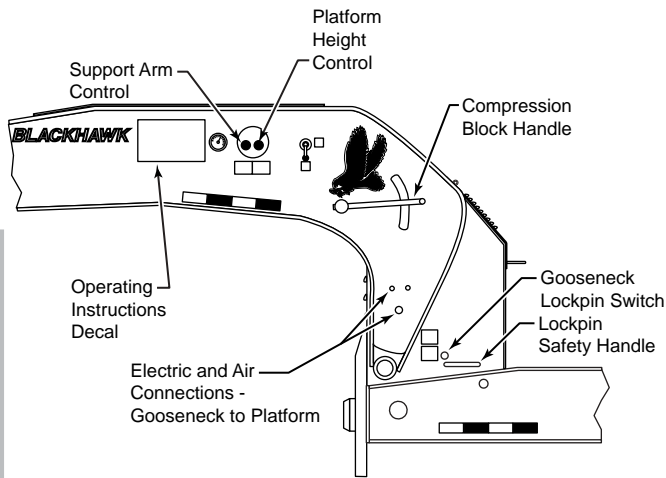

Figure 6. Identification of Controls
(See figures 6 and 7)
7. Pull the safety pin handle out and rotate to hold it out. Release the gooseneck lock pin (Pull switch out), if pin will not release, back trailer up slightly). See figure 6.